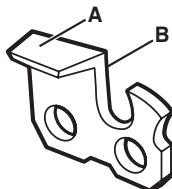

Fig. 17
2. Use a round file with a diameter 1.1 times the cutting tooth depth. Make sure 20% of the file diameter is above the cutter's top plate (Fig. 17).